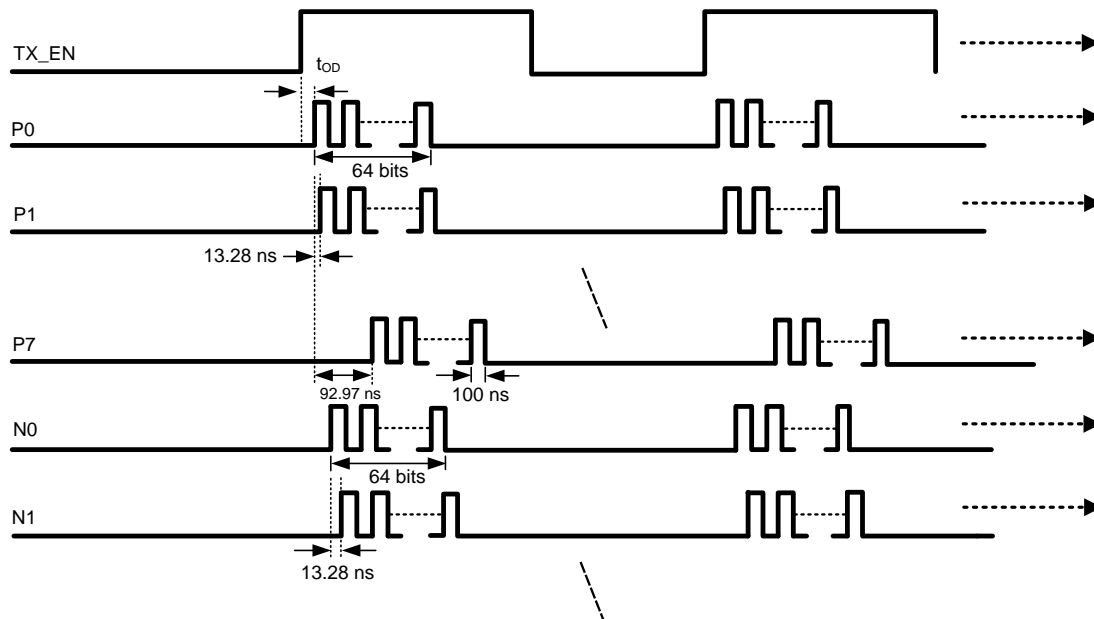

Figure 18. Beamformer Output with Example 1A Parameters
- After firing is complete for all channels, “TX_EN” is pulled low, as the beamformer waits for the next firing signal, i.e., when “TX_EN” is pulled high. See Figure 18 for firing diagram.